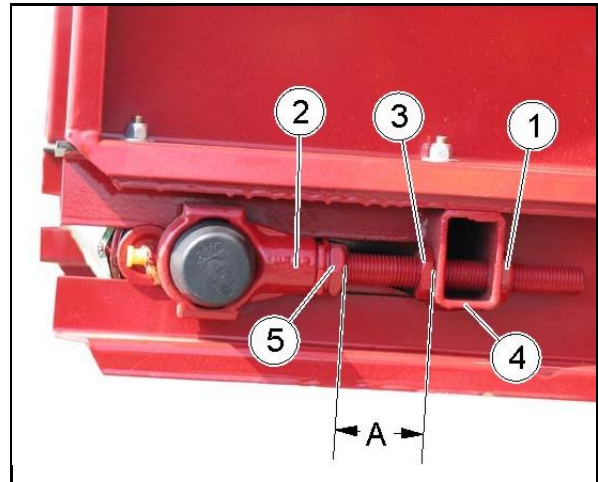

Fig. 99
- Straighten the conveyor by means of the clamping screws (Fig. 99/2) if the conveyor is not running straight or is rubbing along the frame.